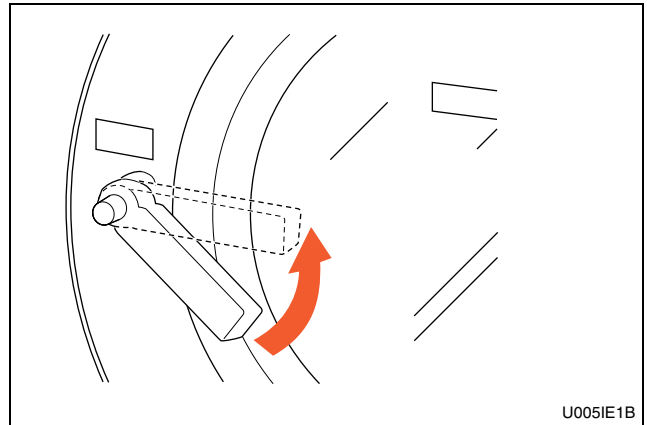

Figure 27
4. Close door and turn handle counterclockwise until button pops out. Refer to *Figure 27*.